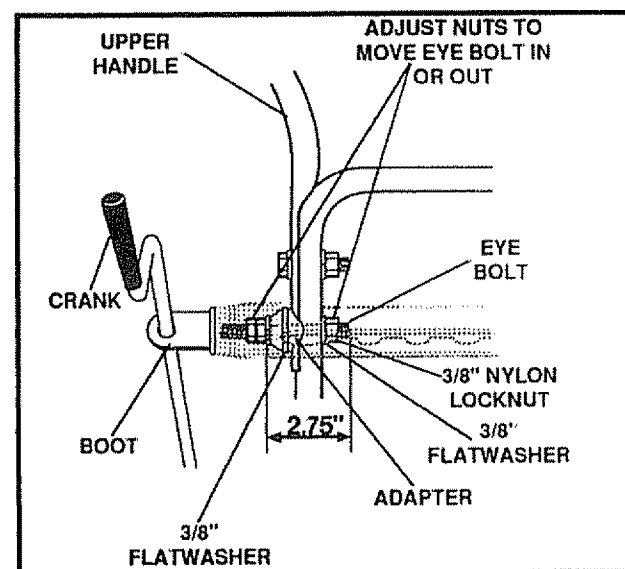

FIG. 4B
- Remove the 3/8" nylon locknut and flatwasher from the eye bolt assembly (on the chute crank assembly removed earlier). Check to make sure the two 3/8" jam nuts are tight. The jam nuts should be 2.75 inches from the end of the eye bolt. (See Fig. 4B).
- Install eye bolt through lower hole in the left hand side of the handle and shifter plate (See Fig. 4B).
- Install the 3/8" flatwasher and the 3/8" nylon locknut loosely on the eye bolt as shown in FIG. 4B.